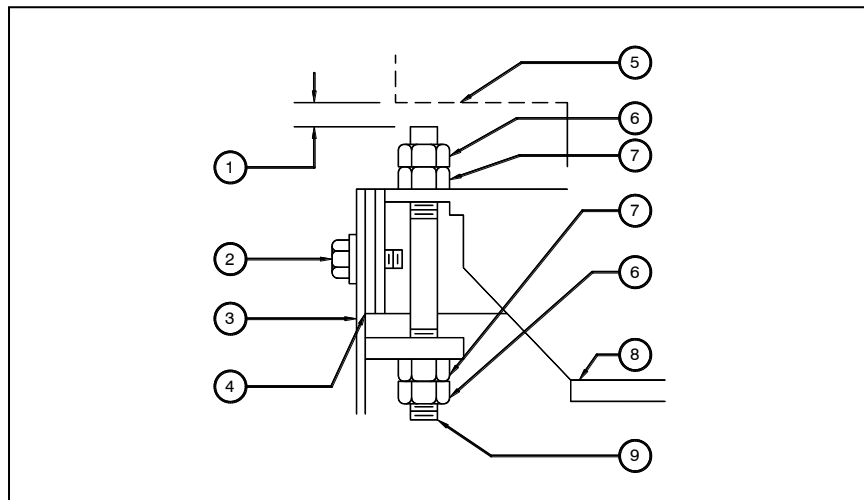

Figure 2.8a
1. Referring to Figure 2.8a, attach the cage to the drive unit using the vertical adjusting studs (9) and adjusting nuts (7).
2. Loosely install the bolts and washers (2).
3. Using the adjusting nuts (7), raise the cage to its highest position. This will allow downward adjustment, if necessary.
5. Adjust the cage for plumb using the adjusting nuts (7).
6. Shim between the drive and cage (4) for a tight fit-up. Shim equally to keep the cage centered.
7. Tighten the bolts (2), but do not torque. Install the lock nuts (6), but do not lock in place on the adjusting nuts.